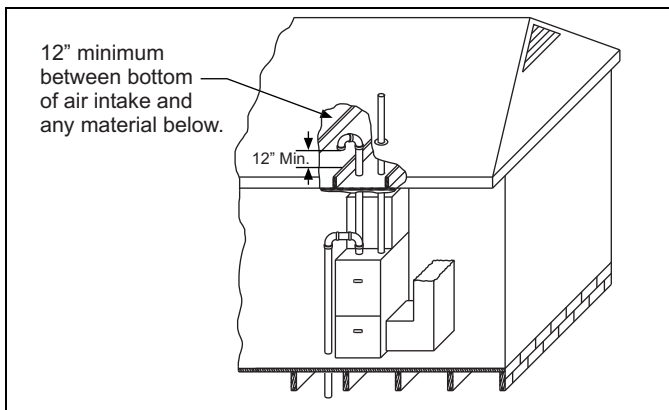

FIGURE 44: Attic and Crawl Space Combustion Air Termination
3. **VENTILATED COMBUSTION AIR:** Combustion air is supplied through a PVC or ABS pipe that is connected to the PVC coupling attached to the burner box and is terminated in a ventilated attic or crawl space. The combustion air and the vent pipes are not terminated in the same atmospheric zone. Refer to Figure 44 for attic and crawl space termination. Only the combustion air intake may terminate in the attic. The vent must terminate outside.
Refer to Figure 44 for required attic termination for the combustion air intake pipe. For attic termination, use two 90° elbows with the open end in a downward position. Be sure to maintain 12" (30.5 cm) clearance above any insulation, flooring or other material.